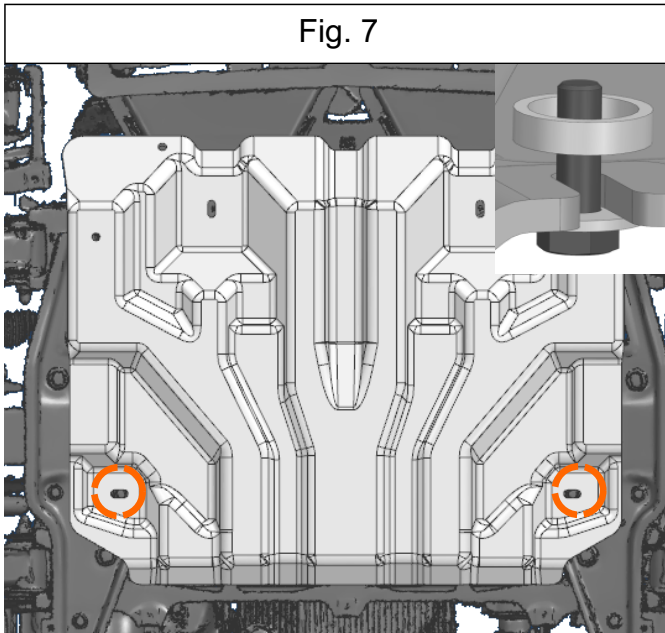

Fig. 7
7. Fix the back side of the skid plate 2 (item 2), using bolts M8x60, washers M8, spacers 20mm (items B, D, H), as shown in fig.7.